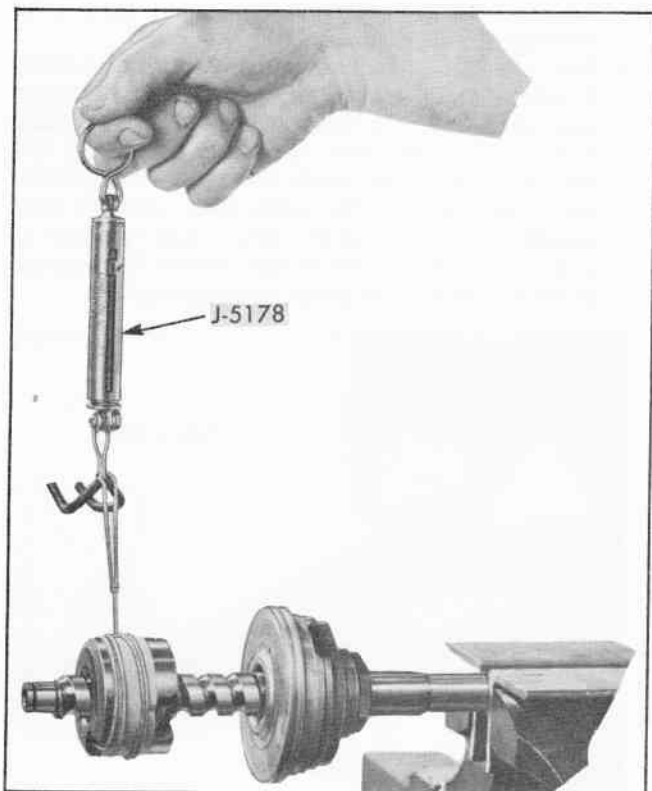

Fig. 75 Measuring Preload of Ball Nut Using Tool J-5178
5. The worm groove is ground to provide a "High Point" through center. To measure preload, clamp worm in a vise using soft jaws, fasten a cord to ball nut and wind it around two or three times. Using spring scale J-5178 (Fig. 75) slowly pull, unwinding the cord and rotating ball nut over "High Point". Reading after nut has started to rotate should be between two and six lbs. If preload is below two lbs., install set of next larger balls and recheck (see table). If preload is over six lbs., install next smaller size balls and recheck. **NOTE:** Ball size used in original assembly is marked on outer diameter of ball nut. Due to wear or use of new parts, it is sometimes necessary to use a size different than indicated.